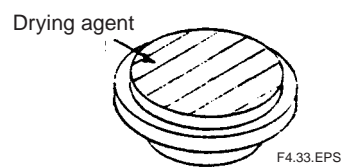

Figure 4.33
6. Remove cell plate C and take out drying agent. (Figure 4.33)